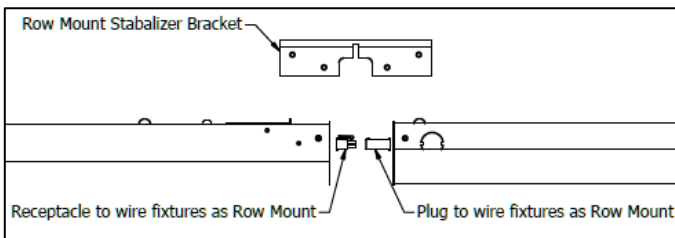

Figure 9
2. Mount the stabilizer brackets into the ceiling at appropriate distances. Now carefully remove the mating row mount luminaries (with connectors coming out from the end) from the box. Position it as shown in Figure 9.